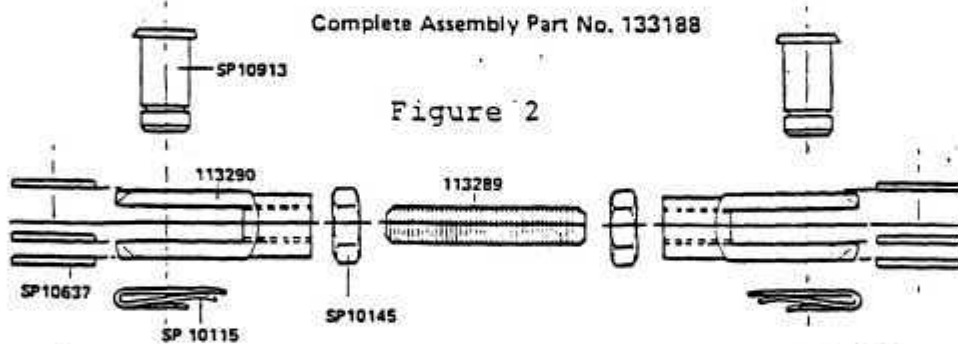
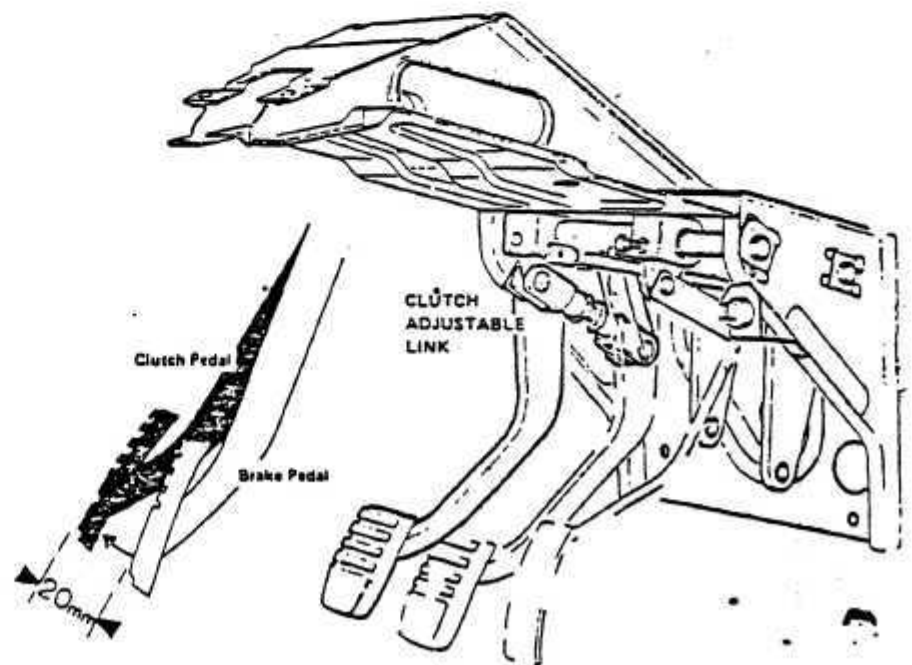

Figure 2
Figure 3
- 3) Firmly install the link wire assembly into the appropriate cavities of the fan fail module plug of the relay panel as indicated in Figure 3.
E) Assemble the adjustable clutch link (Figure 2) (Part Number 133188). Adjust both clevis ends evenly on the threaded rod so as when the link is secured the clutch pedal is 20 mm (3/4") higher than the brake pedal (Figure 3).